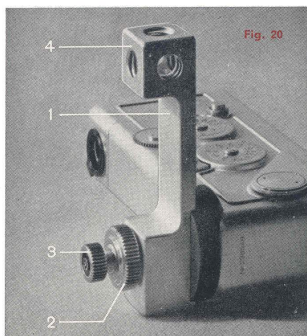

Fig. 20
To employ flash bulbs or electronic flash it is necessary to use special attachment 1 (fig. 20). To do this tighten buttons (2) and (3) to one another.
The flash attachment (bulb or electronic) must be screwed on one of the five threaded holes 4 (fig. 20) on the upper part. The threads are all standard 3/8" Connection for 1/4".